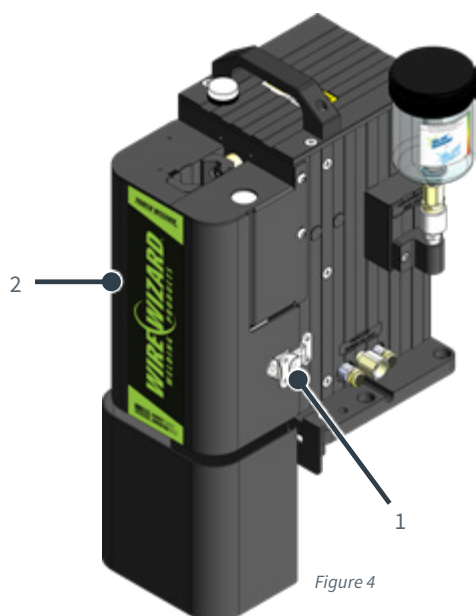

Figure 4
The Torch Wizard® Nozzle Cleaning Station incorporates an adjustable V-Block feature. This feature eliminates the need to replace the V-Block when changing to different diameter gas nozzles. To adjust the V-Block, follow the procedure below (along with Figs. 4 and 5). **Ensure that there is no air pressure or electrical power to the unit before performing this procedure.** After adjusting the V-Block, the Nozzle Presence Reed Switch will require adjustment as well (see Section 2.6 Reed Switch Adjustment for Instructions).
1. Open the Front Cover (refer to Fig. 4 and the procedure for adjusting the V-Block in section 2.4).
3. If the insertion depth is incorrect, loosen all four Socket Head Cap Screws (2). Move the Air Motor (3) up or down to obtain the correct insertion depth.